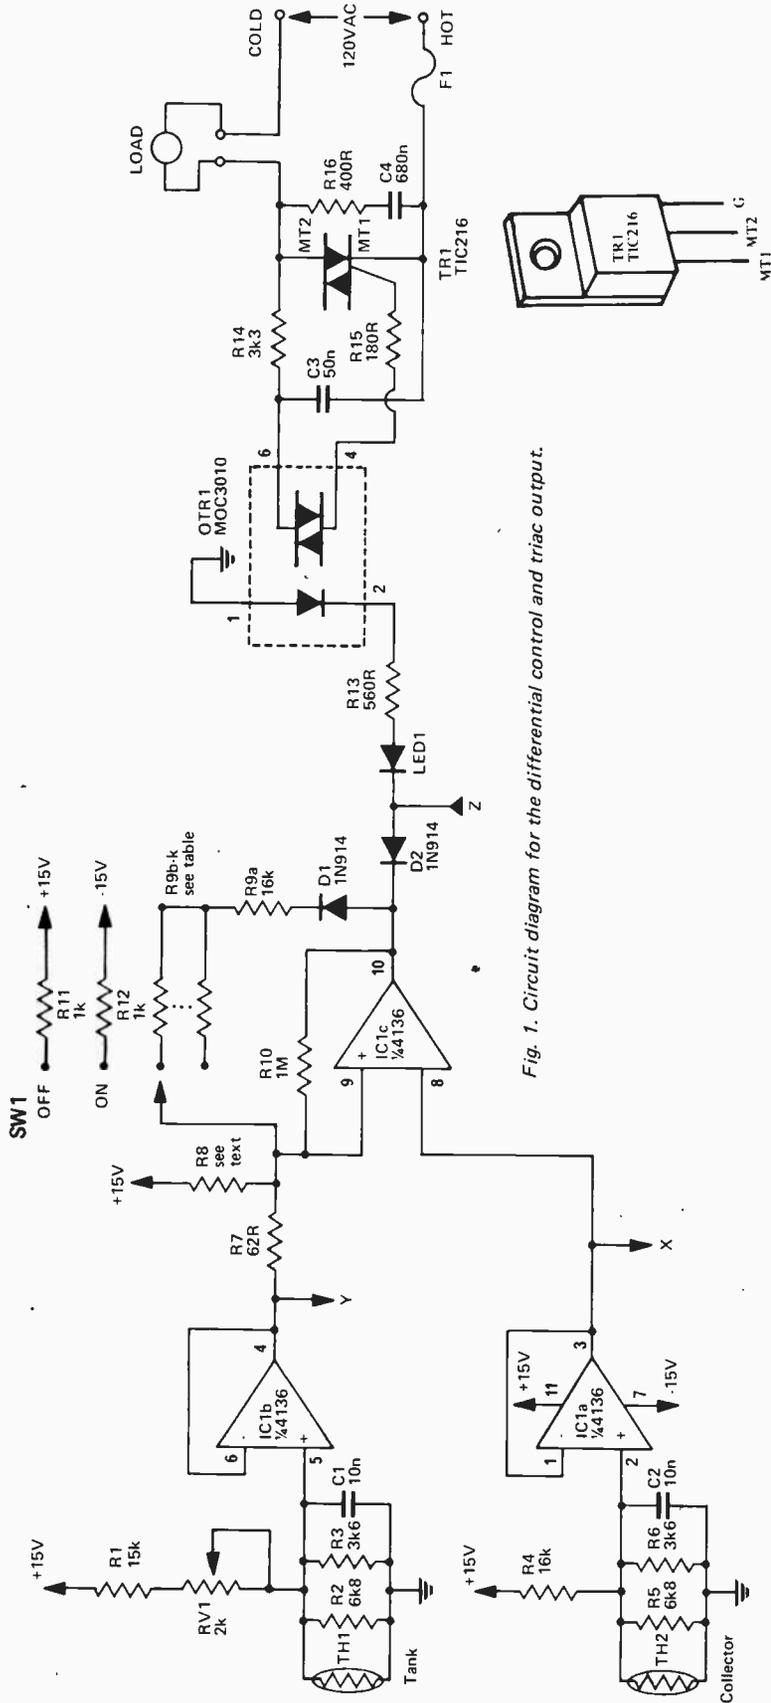

Fig. 1. Circuit diagram for the differential control and triac output.
- Differential circuit drives triac, while each limit drives relay, as shown on Fig. 7. "To point Z" location on each limit is not connected to point Z of Fig. 1.